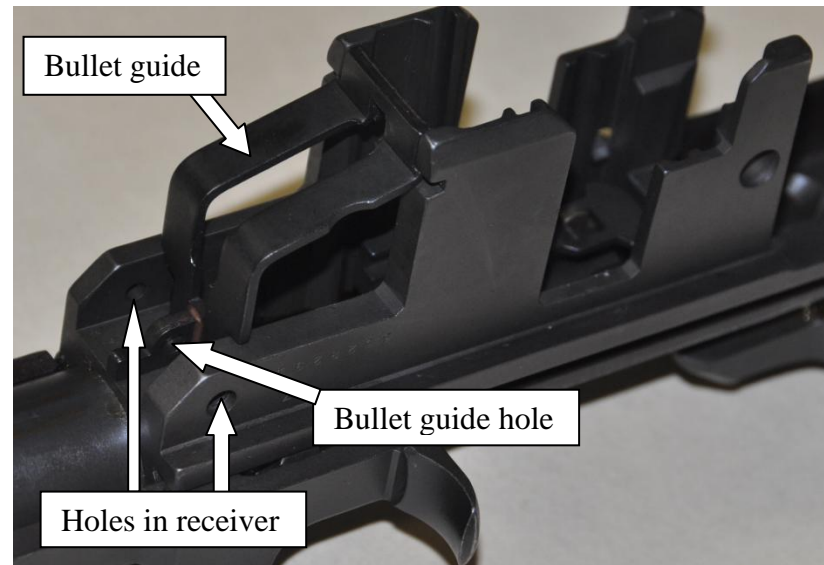

Figure 41. Bullet guide insertion
- 6) Place the bullet guide so that its shoulders fit into their notches in the receiver and its hole is aligned with the holes in the receiver (fig 41).